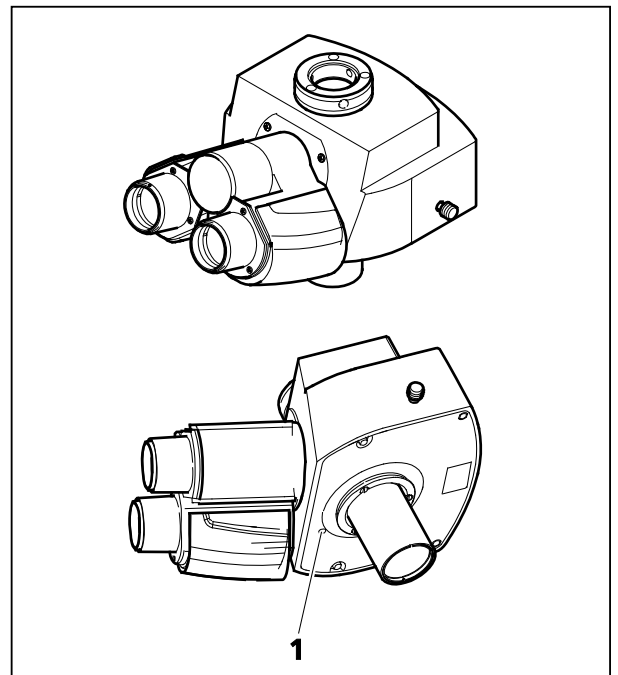

Figure 3-47 Setting the actuating rod
- Set the motion step using the screw (width A/F 1.5) (Figure 3-47/1) located on the lower side.